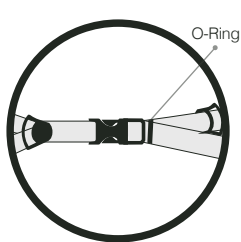

Fig. 4.
- Fig. 4 shows how the chin strap also plays an important role in positioning the helmet. Adjust the length of the strap and the location of the buckle to create a comfortable, yet firm tightness around your chin and head.